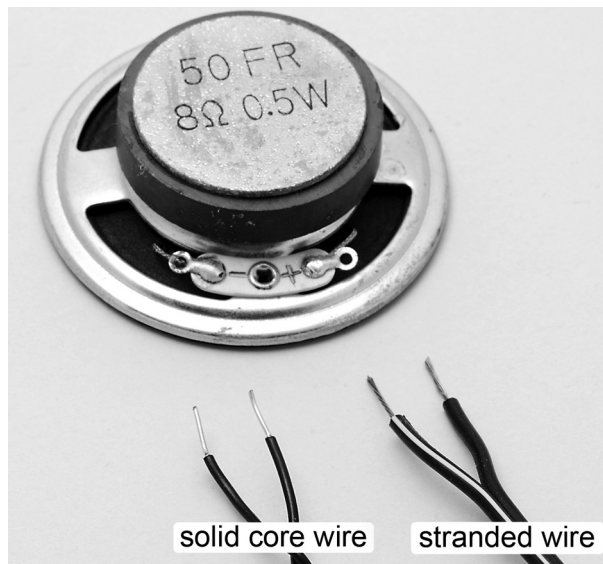

Fig. 7
- (d) Fig. 7 shows the speaker and available wires for use in an amplifier circuit.